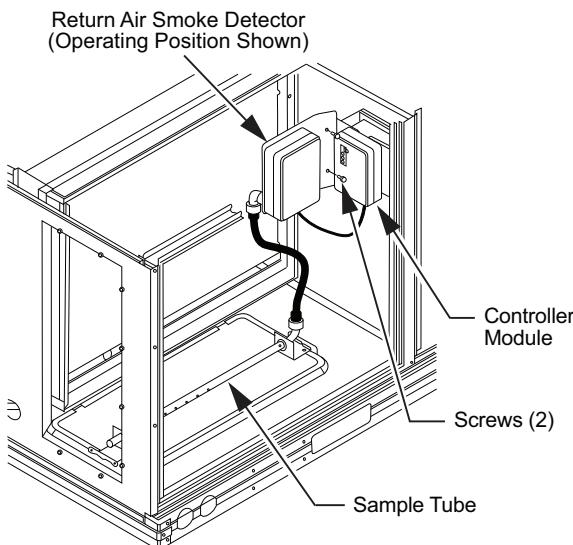

Fig. 44 – Return Air Smoke Detector Operating Position
3. Rotate the detector plate so the sensor is facing outwards and the sampling tube connection is on the bottom. See Fig. 44.